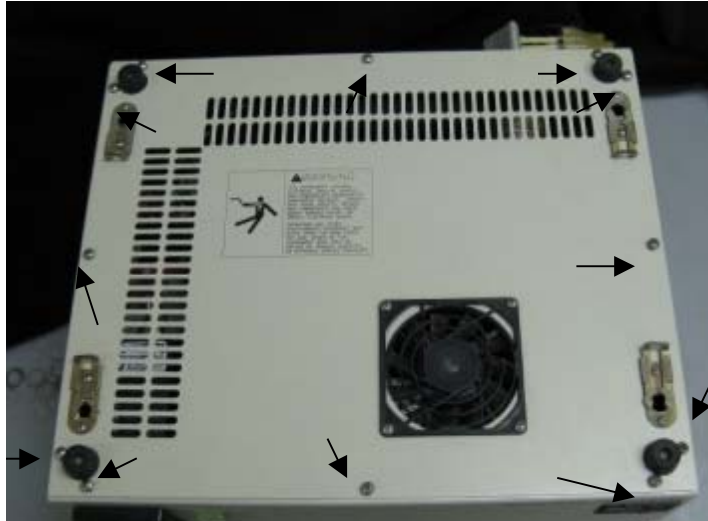

Figure 1
- 2) Turn the unit upside down and remove the (12) screws using a #2 Phillips screwdriver. Fig.1